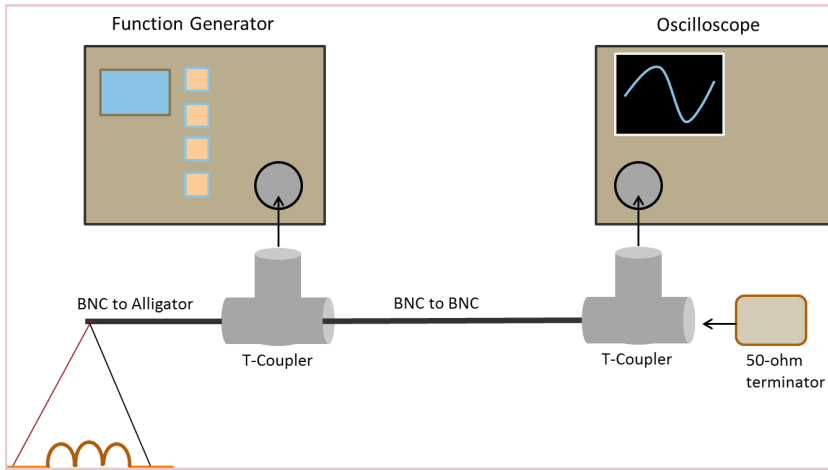
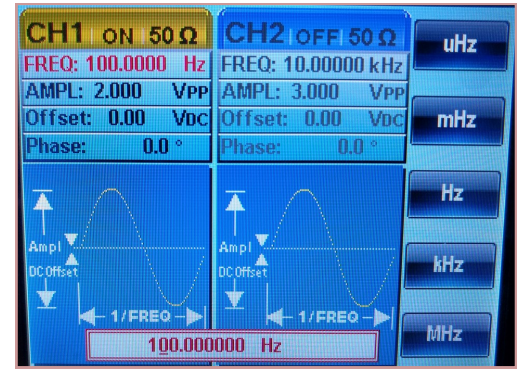

Figure 9. Test set-up for Postlab #1
Figure 10. Function generator set-up.
1. Use the test set-up of Fig. 9.
2. Place the inductor in the test set-up from Fig. 9. Set up the function generator as shown in Fig. 10.